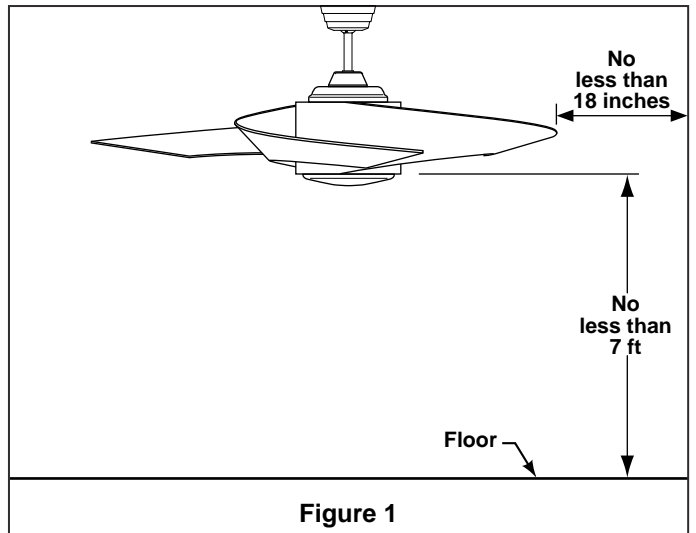

Figure 1
NOTE: If you are uncertain of part description, refer to exploded view illustration. (Figure 1, page 11)
Your new ceiling fan will require a grounded electrical supply line of 120 volts AC, 60 Hz, 15 amp circuit. The outlet box must be securely anchored and capable of withstanding a load of at least 50 lbs. **Figure 1** depicts different structural configurations that may be used for mounting the outlet box.
1. Remove the Clevis Pin, Hairpin Clip, Hanger Ball and Pin by loosening the setscrew in the Hanger Ball. Retain the Clevis Pin, Hairpin Clip, Hanger Ball and Pin for reinstallation. (Figure 1)
5. Reinstall the Hanger Ball (Figure 1) on the Downrod as follows. Route the three 80" wires through the Hanger Ball. Position the Pin through the two holes in the Downrod and align the Hanger Ball so the Pin is captured in the groove in the top of the Hanger Ball. Pull the Hanger Ball up tight against the pin. **Securely tighten the setscrew in the Hanger Ball. A loose setscrew could create fan wobble.**
The fan must be hung with at least 7' of clearance from floor to blades (Figure 1)